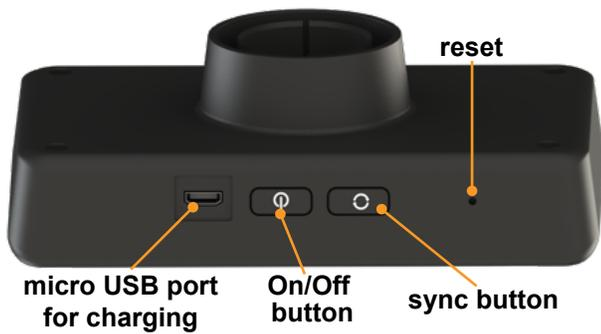

Fig.3
3. Turn on LCD display using On/Off button on bottom of the display (Fig.3).
4. Press and hold the sync button on the LCD display (Fig.3) to pair the sensor until the display beeps and the red flashing circle turns green.
6. Press and hold the sync button on the LCD display (Fig.3) to pair the sensor until the display beeps and the red flashing circle turns green.